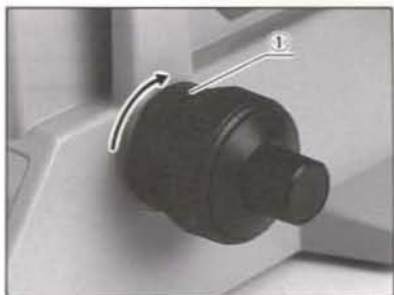

Fig. 3
- ① Lens surfaces must always be kept clean. Fine dust on lens surfaces should be blown off by means of hand blower. Carefully wipe off oil or fingerprints on the lens surfaces with gauze moistened with a **small amount of alcohol and ether (3 : 7) mixture, or xylene.**
- ② Do not use organic solutions to wipe the surfaces of various components. Plastic parts, especially, should be cleaned with a neutral detergent.
- ③ Be careful not to spill the culture solution, etc. If spilled, it should be wiped off immediately.
- ④ When objectives are not screwed into the nosepiece apertures, seal the apertures with dust plugs, which will protect the lenses located in the lower light path from dust, culture solution, etc.
- ⑤ When not in use, the microscope should be covered with the dust cover provided.
- ⑥ A tension adjustment ring **①** is provided next to the coarse focus adjustment knobs. With this device the tension of the coarse adjustment is freely adjustable for either heavy or light movement, depending upon operator preference. (Fig. 3)